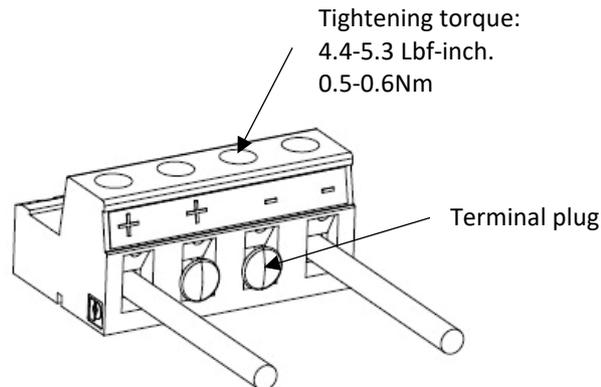

Figure 4-58: Two Wires Connection to The Output Plug
3. In case only two wires are connected to the load, insert the terminal plugs provided in the accessories kit to the vacant terminals as shown in Figure 4-58.